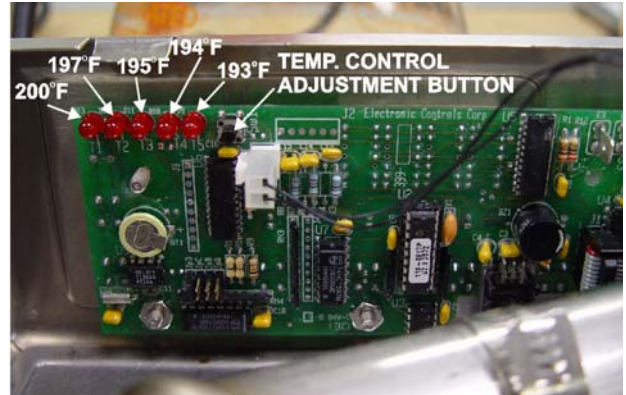

Fig. 3
ADJUSTING THE TEMPERATURE: (Fig. 3) (For Machines Made Before Serial Numbers 3432508)
3. Remove the top cover and locate the control board. (See fig. 3)